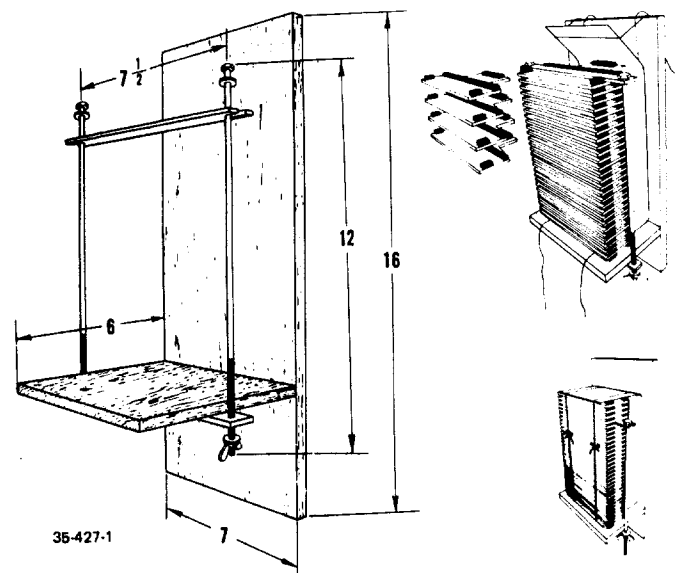

Figure 3-13B. Air Conditioner Wick Jig
2. Construct a jig similar to the one shown in Figure 3-13B. The jig will simplify installation of the wicks, as considerable pressure is required to insert all of the wicks in the rack.